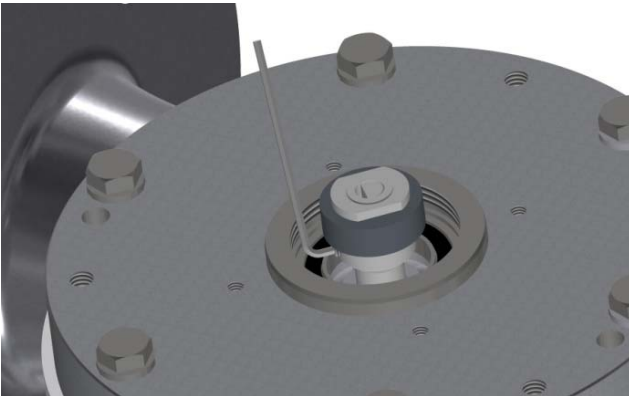

Figure 56 – Tightening the magnet
3. Tighten the Allen screw in the fixed magnet, as shown in Figure 56